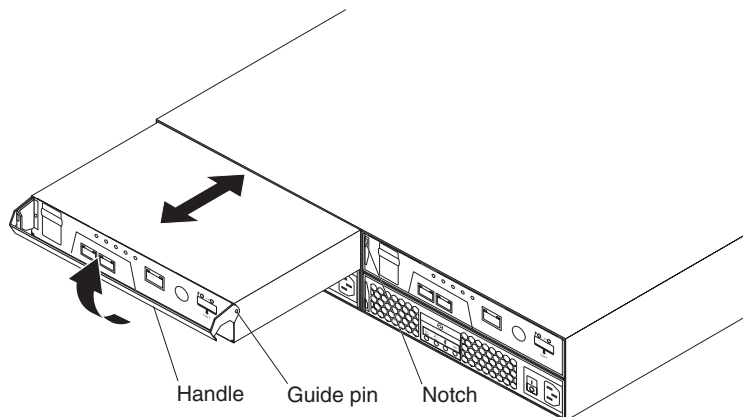

Figure 35. Removing a controller
- b. Slowly pull the handle away from the chassis to remove the controller from the bay, as shown in Figure 35.